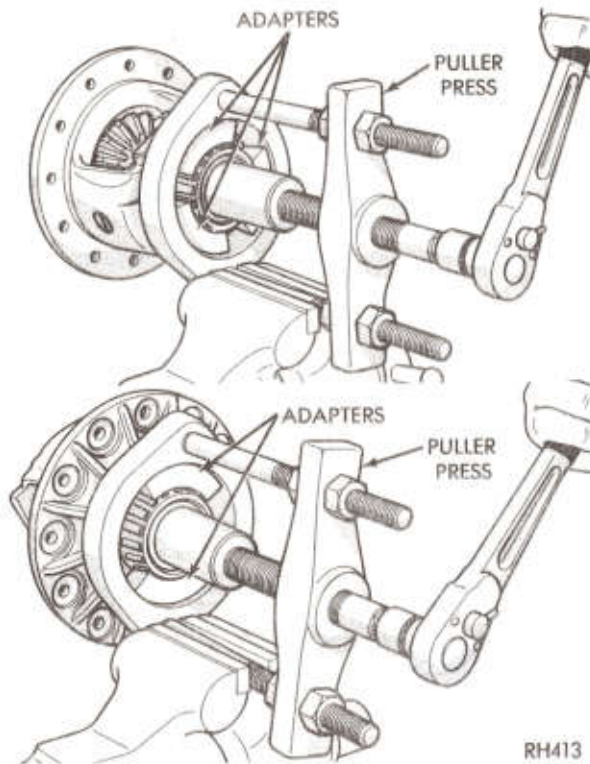
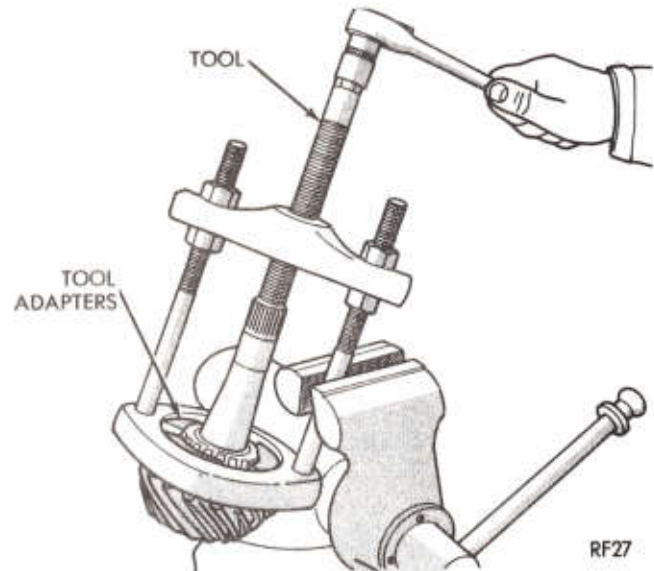

Fig. 7—Removing Differential Bearings
Fig. 8—Removing Bearing Cone from Pinion
(22) Using Tool C-293-PA press with C-293-18 plates and C-293-3 plug, remove differential bearing cones (Fig. 7). Care must be taken to insure that bearing remover is located so as not to pull on bearing cage.
(23) Remove bearing shims. **If drive gear and drive pinion are to be reassembled, note position of shims so they may be installed accordingly. Replace damaged shims with new of the same thickness.**
(24) Press out drive pinion shaft and inner bearing cone assembly. Lift bearing preload shim pack off shaft assembly and record shim thickness.
(25) Lift out oil seal gasket, slinger and outer bearing cone.
(26) Remove outer and inner bearing cups from carrier using a drift. Remove shims from in back of inner cup and record thickness of the shims.
(27) Using Tool C-293-PA press with C-293-39 plates, remove inner pinion bearing cone (Fig. 8). Care must be taken to insure that bearing remover is located so as not to pull on bearing cage.